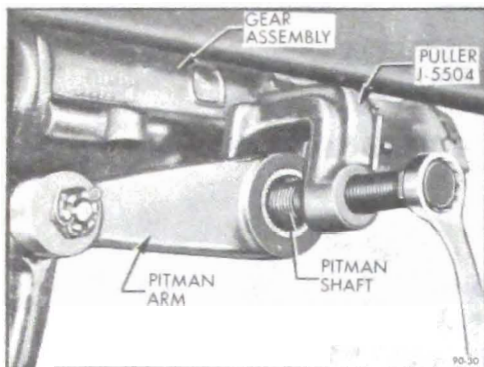

Figure 90-44 Removing Pitman Arm From Pitman Shaft.
1. Remove pitman arm nut and disconnect pitman arm from pitman shaft using puller J-5504. See Figure 90-44.
4. Remove pitman arm nut, then remove the pitman arm using puller J-5504. See Figure 90-44.